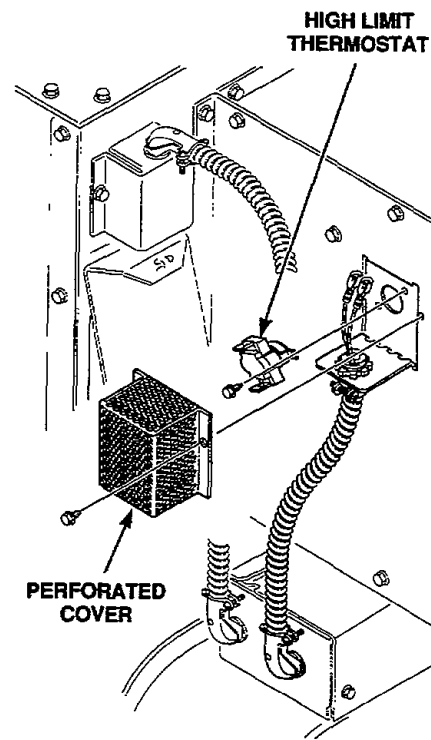

Figure 20
- Prior to Serial Number DTCK9211033714 (Figure 20).
- After Serial Number DTCK9211033714 (Figure 20).